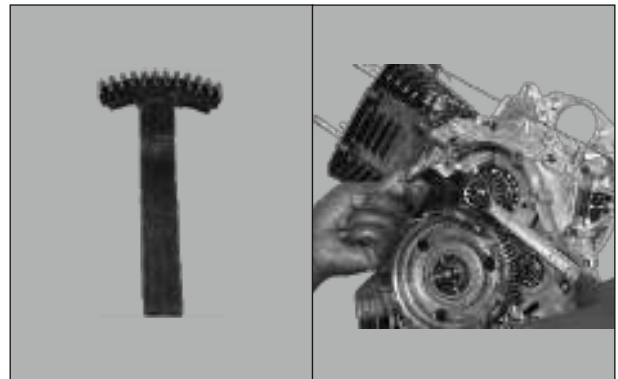

Fig. 1.5
- Mesh the gear sector primary drive gear holding tool along with primary driven and primary drive as shown in the figure. (Fig. 1.5)